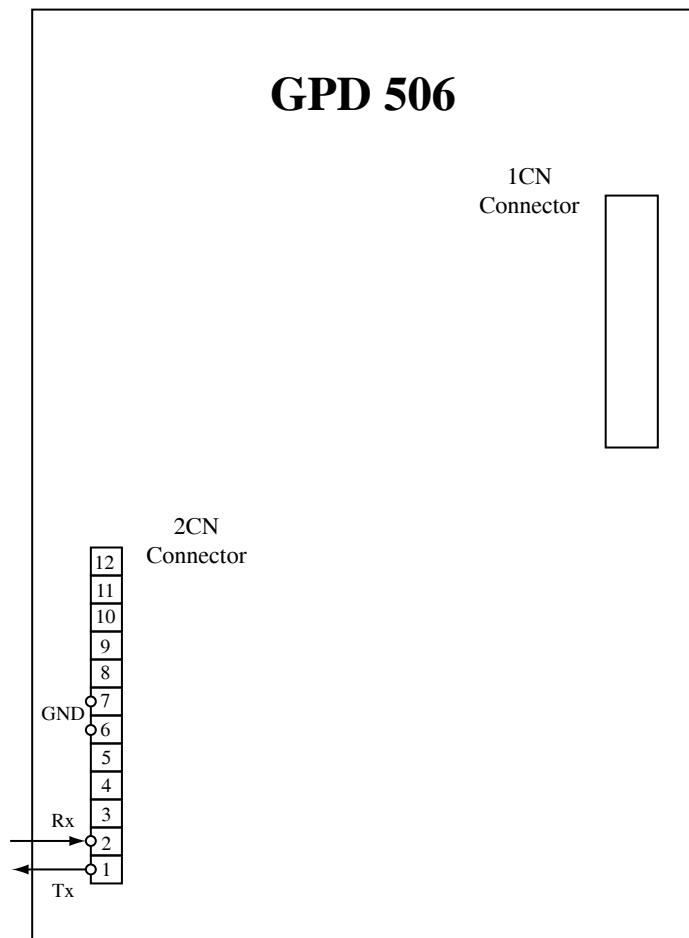

Figure 2-1. RS-232 C/D Pin-out at 2CN Connector
| | Figure 2-1. RS-232 C/D Pin-out at 2CN Connector | 2-2 |
- Figure 2-1. RS-232 C/D Pin out at the 2CN Connector